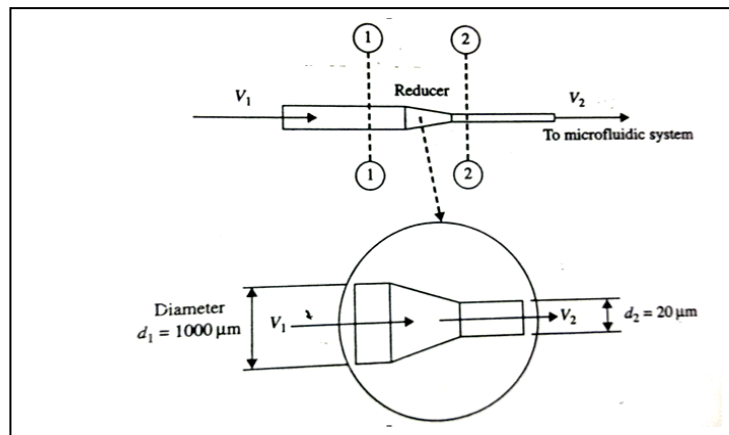

Fig. 5A
- 5A.** A non compressible fluid is used in a microfluidic system. It flows through a tube with a diameter of 1mm at a rate of 1 μl per min. A reducer is used to connect this tube to the microconduits in the fluidic system. The reducer has an outlet diameter of 20 μm . Determine the velocity of the fluid at the inlet and outlet of the reducer. Refer fig.5A **2**